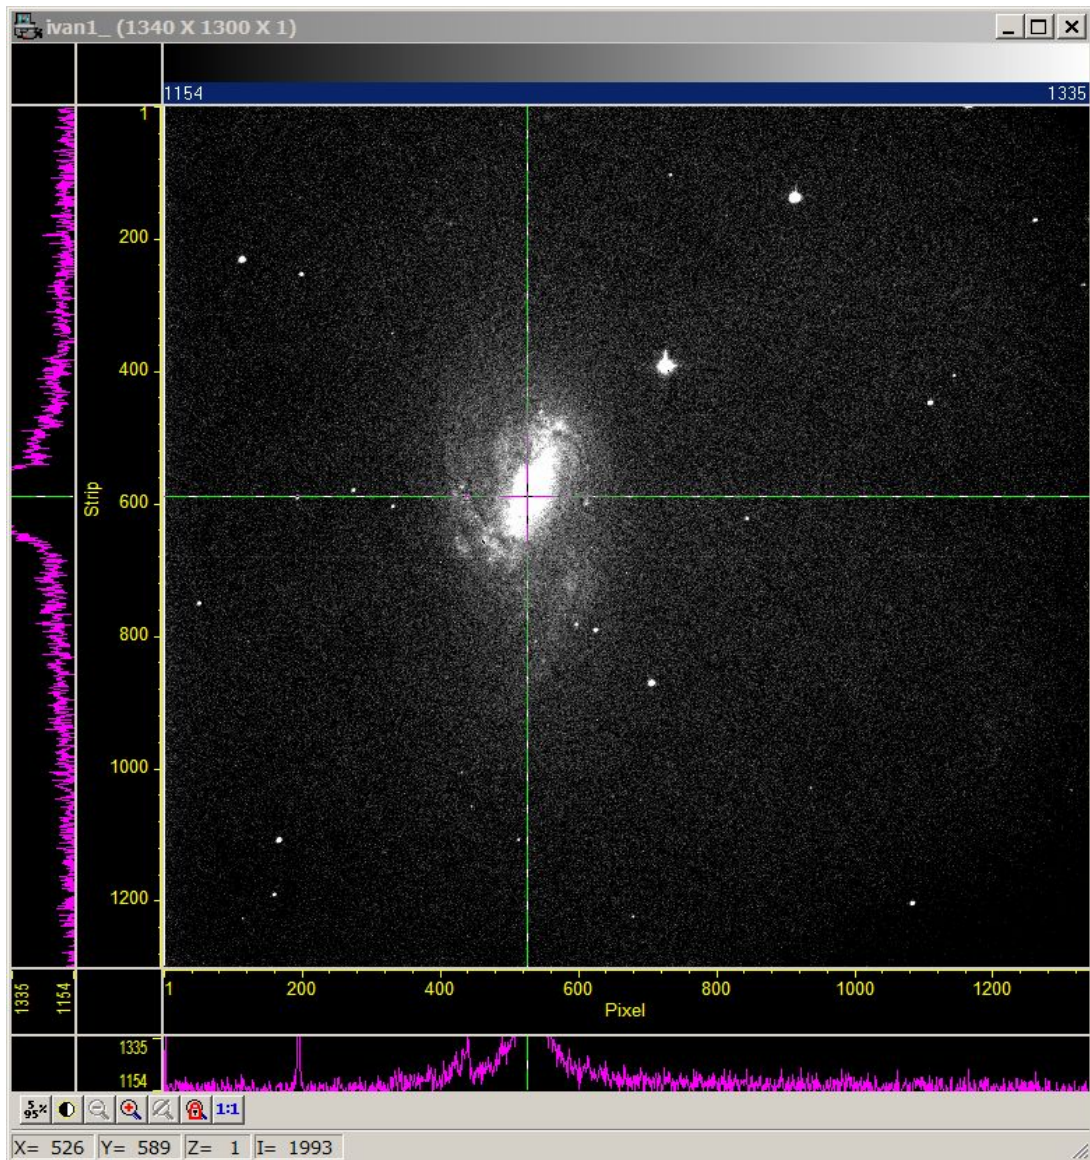

Figure 43
Suppose you want to take a spectrum of M66 galaxy's nucleus with the 2" slit and Grism 4. The Telescope is pointed and we have taken a short test image to see the target on the *Winview* display monitor (Figure 43). Adjust the image contrast (section 2.2).
- Click with the mouse on the galaxy nucleus. A green cross is displayed and take a note of the target position in pixel (X_t, Y_t). These coordinates are shown in the lower left-hand corner of the *Winview* display. For this example (X_t, Y_t) is (526,589) (Figure 43).